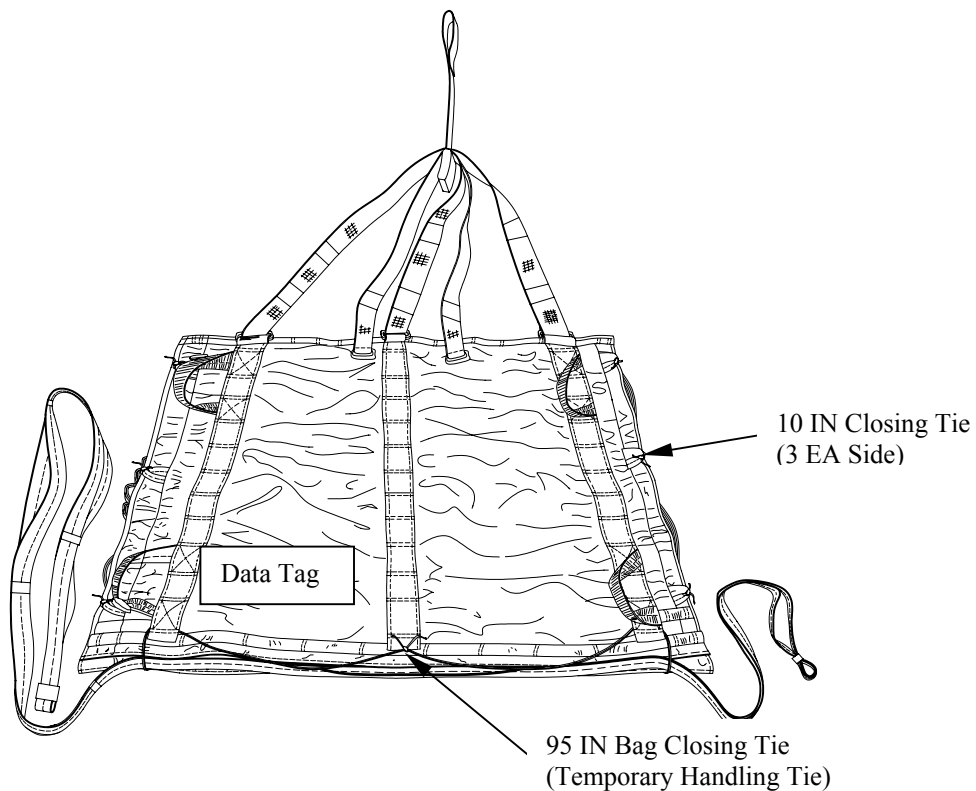

Figure 11. Temporary Handling Tie.
- f. Beginning at the upper top center bridle attaching loops, pass one end of a 95-inch type I, ¼-inch cotton webbing closing tie (temporary handling tie) through the top center, bottom right, top right, bottom center, top left, bottom left, and back through top center loops. Remove slack from tie and secure ends with a surgeon's knot and locking knot (figure 11).